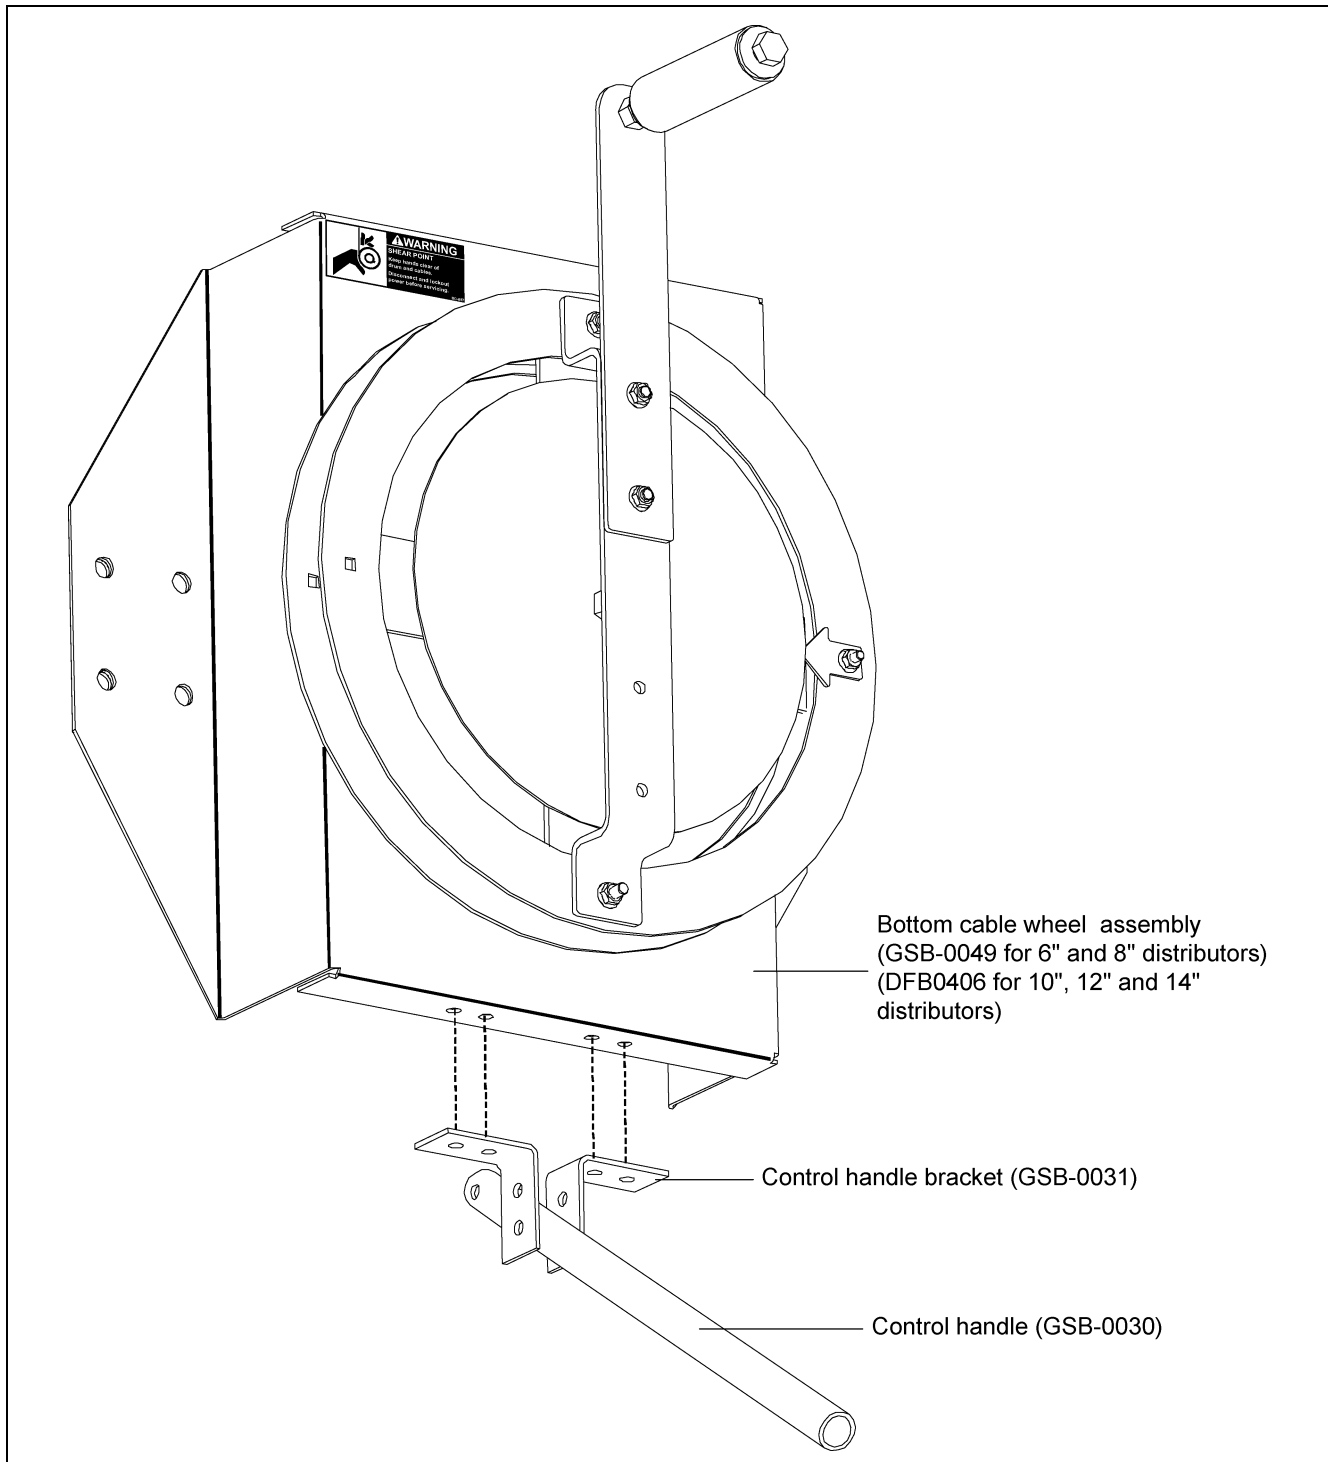

Figure 5E
Once the upper assembly has been installed, the control handle needs to be assembled to the lower cable wheel assembly. There are two (2) brackets (GSB-0031) that mount to the bottom of the lower cable wheel assembly (GSB-0049). These brackets are fastened with 5/16" x 1" bolts and nuts. The control handle (GSB-0030) is mounted between the brackets using the second hole in the control handle and the end hole on the brackets. This is fastened using 5/16" x 2" bolt and lock nut. The hardware required is located in (FC-DCG-HDW). This assembly is shown in Figure 5E.